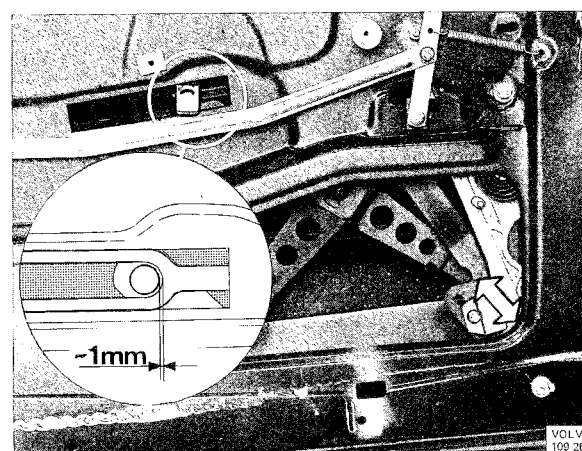

Fig. 8-23. Adjusting lower stop position
3. Run down the window to the stop position. Check that the lifting arm does not bottom in the slide fork. Adjust if necessary the stop lug so that there is a clearance of approx. 1/32" (1 mm), Fig. 8-23.